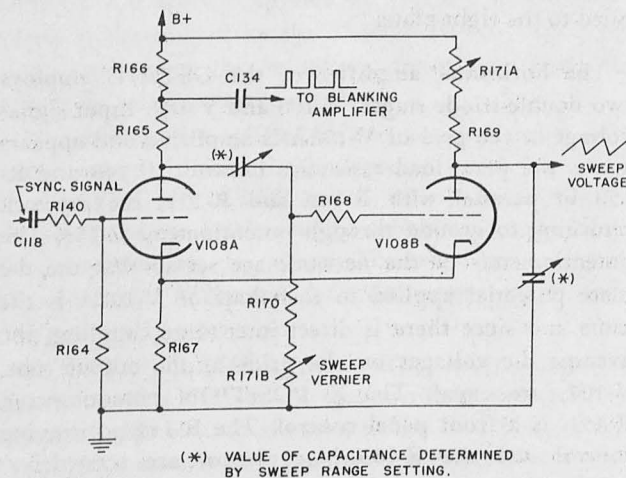

Figure 2-2. Sweep Generator, Simplified Schematic
e. SWEEP GENERATOR. — The sawtooth sweep voltage waveform is generated by V-108A and its associated circuit, shown in the partial schematic diagram, figure 2-2. This is a conventional cathode-coupled multi-vibrator circuit, with the synchronization signal applied at the grid of V-108A, and the sweep sawtooth voltage appearing at the plate of V-108B.